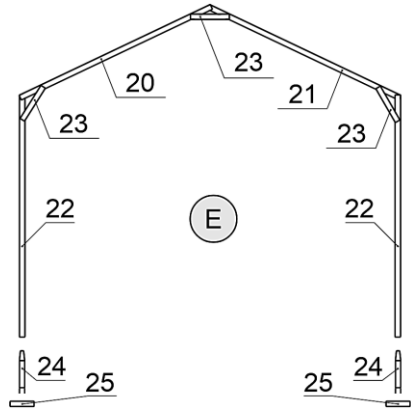

Fig.2 Intermediate arch "E"
4. Assembling intermediate arches Fig.2